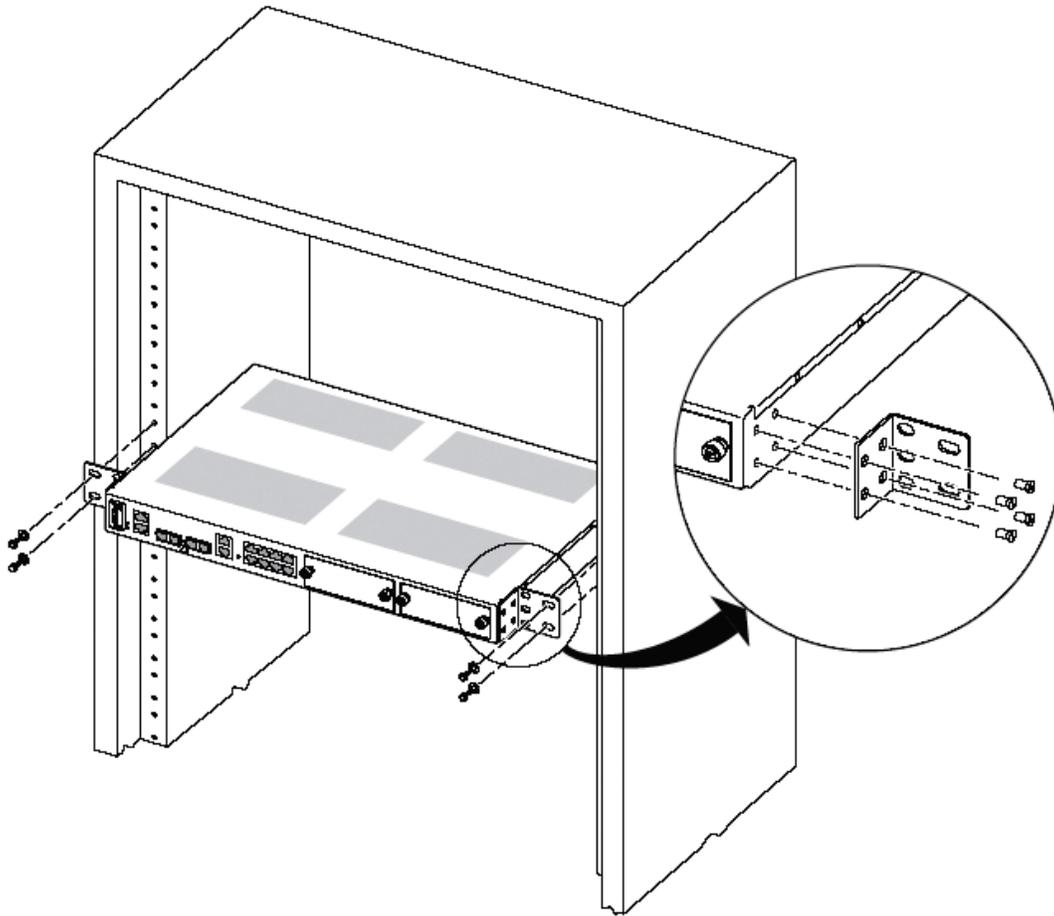

Figure 11. Mounting the OS-10 System in an ETSI 300-mm Rack
To install the OS-10 system chassis in an ETSI 300-mm rack, see Figure 11 and follow these steps:
1. Install the two L mounting brackets in the orientation shown in Figure 11. Insert and fully tighten the screws to secure the brackets to the chassis (four screws for each bracket). Use a suitable screwdriver for this task.
**Note** For this rack configuration, the L mounting bracket holes are positioned 50 mm back from the front panel of the OS-10 system, as shown in Figure 11.